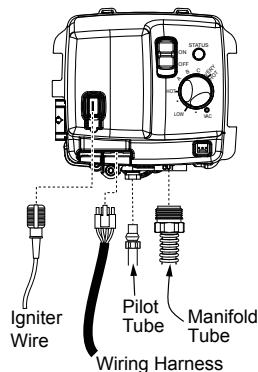

FIGURE 23.
2. Move the ON/OFF switch on the gas control valve/thermostat to the "OFF" position to turn off the water heater. (Figure 23).